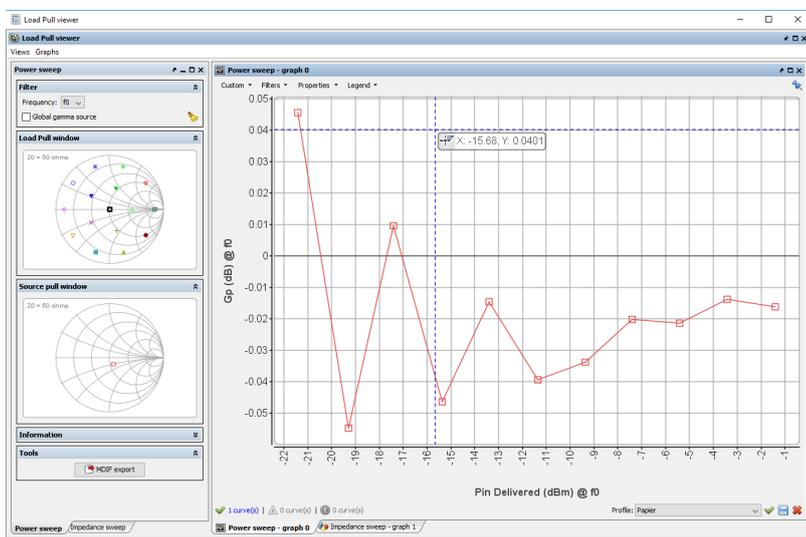

Fig.2
When calibration is done correctly and the whole setup is stable, the measured operating power gain (GP) for the DUT (i.e the THRU) should ideally be 0dB and typically $\pm 0.05\text{dB}$ for an optimum measurement system at 50 Ohms, See fig.2.